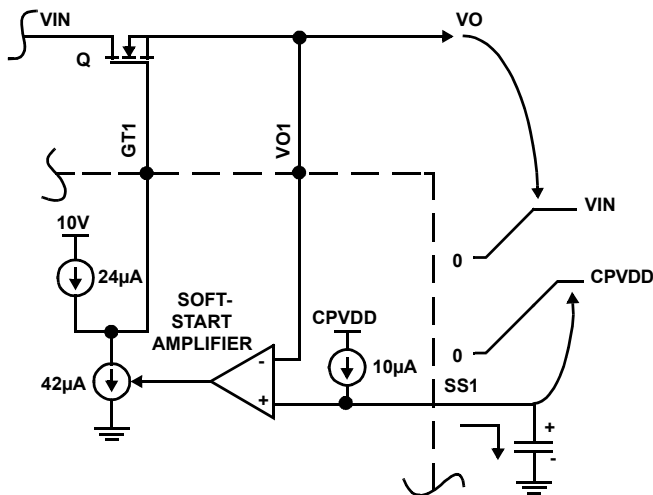

FIGURE 15. SOFT-START OPERATION
The output voltages are monitored through the Vo pins and slew up at a rate determined by the capacitors on the Soft-start (SS) pin, as illustrated in Figure 15. 24µA of gate charge current is available. The soft-start amplifier controls the output voltage by robbing some of the gate charge current thus slowing down the MOSFET enhancement. When the load voltage reaches its set level, as sensed by its respective UV pin through an external resistor divider, the Power Good ( $\overline{PG}$ ) output goes active.
$I_{INRUSH}$  is the sum of the DC steady-state load current and the load capacitance charging current. If the DC steady-state load remains disabled until after the soft-start period expires ( $PGX$  could be used as a load enable signal, for example), then only the capacitor charging current should be used as  $I_{INRUSH}$ . The  $C_{SS}$  value should always be more than (1/2.4) of that of  $C_{ISS}$  of the MOSFET to ensure proper soft-start operation. This is because the  $C_{ISS}$  is charged from 24 $\mu\text{A}$  current source, whereas the  $C_{SS}$  gets charged from a 10 $\mu\text{A}$  current source (Figure 15). In order to make sure both  $V_{SS}$  and  $V_O$  track during the soft-start, this condition is necessary.